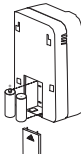

Fig. 4
5. Open the battery cover by pushing down on the battery snaps (Fig. 4).